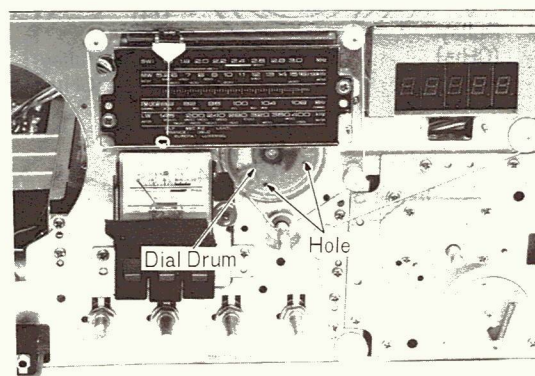

Fig. 24
2. Set the dial drum at the position, as shown in fig. 24.